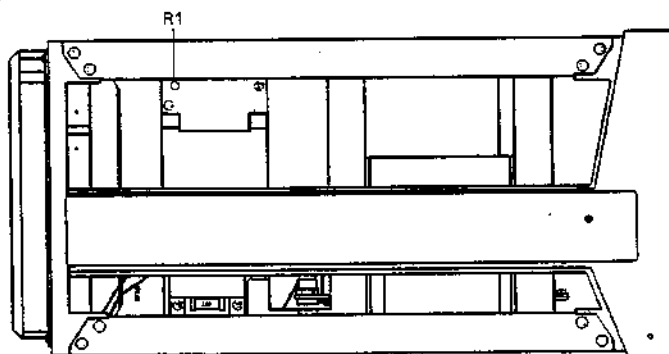

Fig. 4-1 Location of the potentiometer R1 (lateral view of instrument)
- ▶ Adjust the frequency accuracy to $10 \text{ MHz} \pm 1 \text{ Hz}$ using the potentiometer R1 (accessible via the bore in the cover of the oven-controlled crystal oscillator module, cf. fig. 4-1).